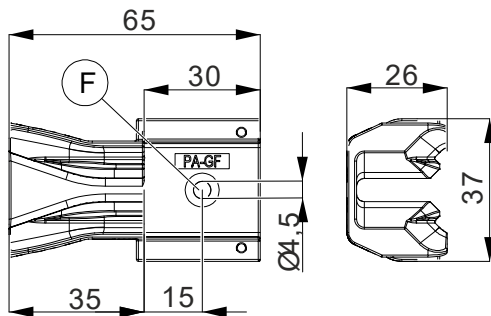

Fig. 55: Plastic transfer guide dimensions
Transfer guides can also serve as anchor points. The holes (F) marked in Fig. 55 and Fig. 56 can be used for this purpose. To install the anchor point screw, it is necessary to drill a through hole of 6 mm through the support structure.
A through hole ( $D = 4.5 \text{ mm}$ ) must be drilled through the support structure for the anchor point screw (6). The position of the through hole can be taken from Fig. 55 and Fig. 56.
If the transfer guide (1) is used as an anchor point, the anchor point screw must be mounted before the transfer guide is mounted (Fig. 55 and Fig. 56 Pos. F).
3. A hanger clamp (4) must be fitted at a distance of 45 mm from the end of the data rail (see Section 6.4.1).
4. Fully mounted transfer guide (1) with hanger clamp (4).